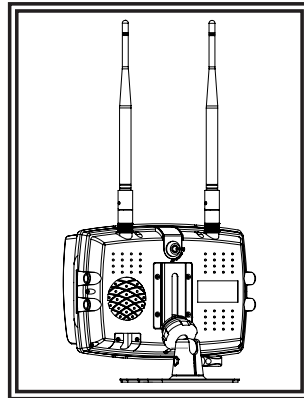

Figure 5
4. Install the monitor and sun-visor on the pedestal mount as shown in Figure 5. Adjust the monitor's position for best viewing angel before tightening the set screw on the pedestal mount. Attach the antennas so they point upward.